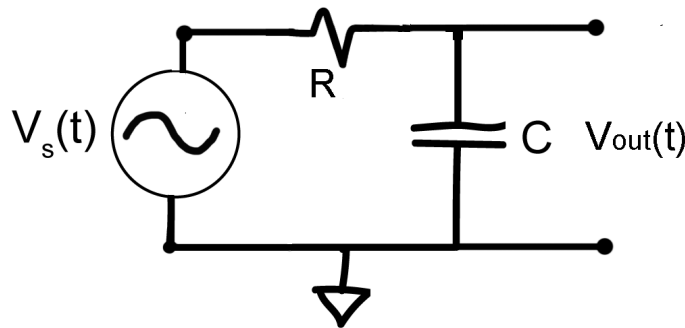

Figure 6.1.
Q.1 Design a RC low-pass filter with $f_{3\text{dB}} = 8.0 \text{ kHz}$ (Figure 6.1). Include a SCREENSHOT from the oscilloscope of the rough performance that shows that the 3dB point is within design criteria. A nice way to accomplish this is with an image of the frequency sweep.